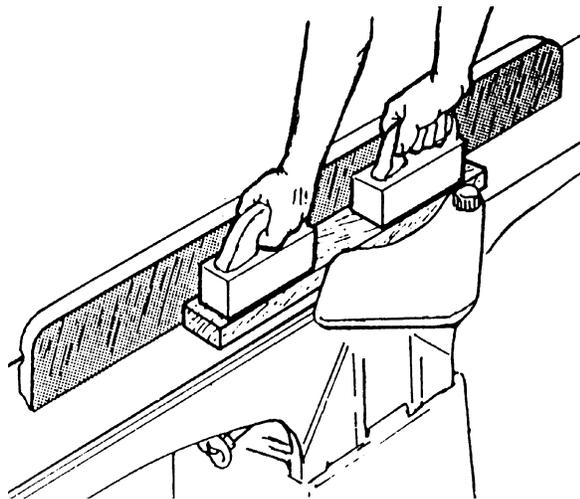

Figure 37
- ❑ On stock longer than 12 inches (304.8mm) use two push blocks (Figure 37).